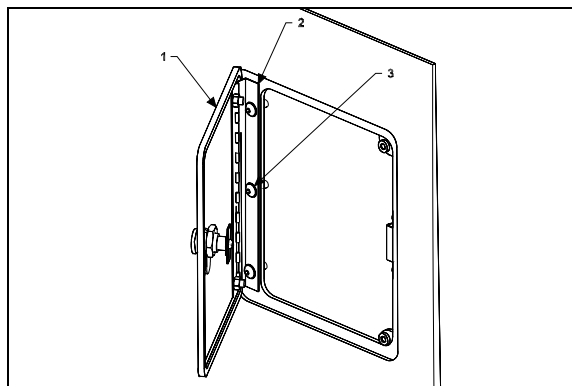

FIGURE 77: FUEL FILLER DOOR
1. Open the fuel filler door (1, Fig. 77).
2. Loosen the screws (3, Fig. 77) holding the panel to hinge (2, Fig. 77) assembly.